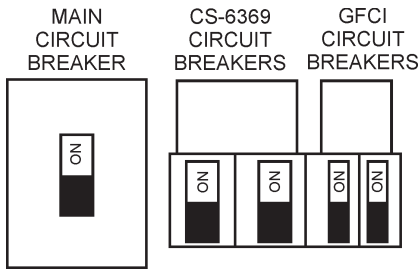

Figure 49. Main, Aux. and GFCI Circuit Breakers (ON)
- Place the **main, GFCI, and aux.** circuit breakers in the **ON** position (Figure 49).